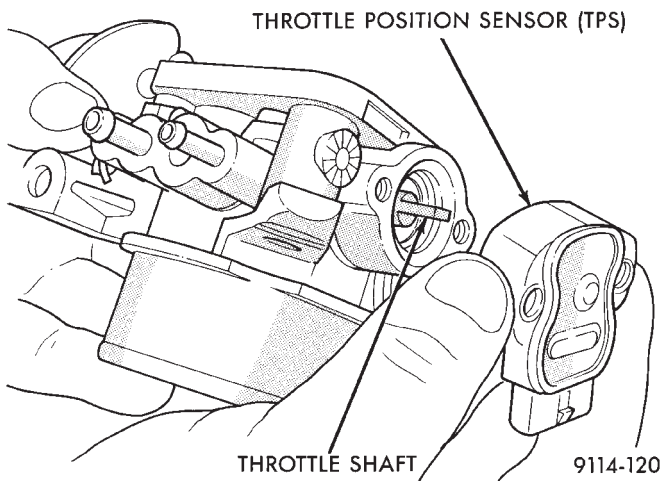

Fig. 3 Throttle Position Sensor
- (1) Disconnect the negative cable from the battery.
- (2) Disconnect harness connector from throttle position sensor (Fig. 3).
- (3) Remove throttle position sensor mounting screws.
- (4) Lift throttle position sensor off throttle shaft.